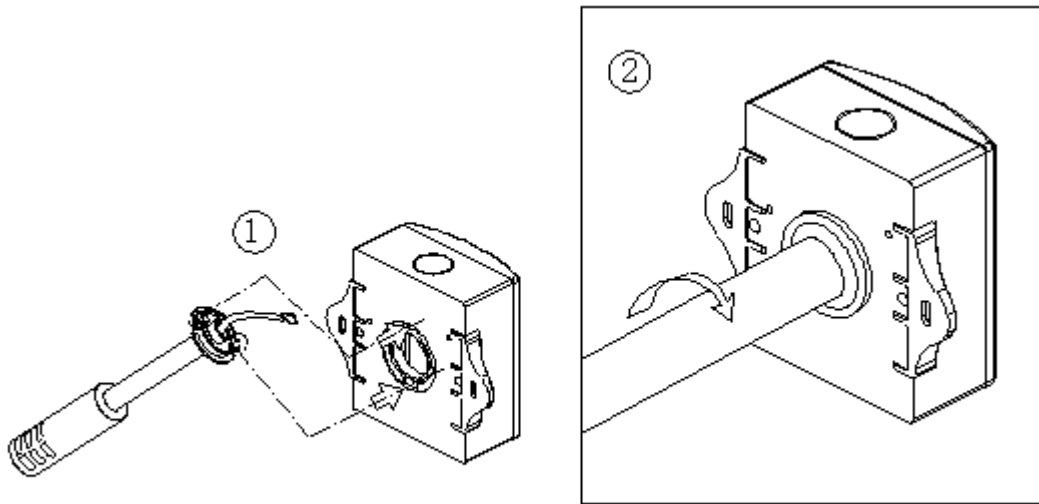

Fig.5
- ◆ The sense probe can be replaced. (see fig.5).